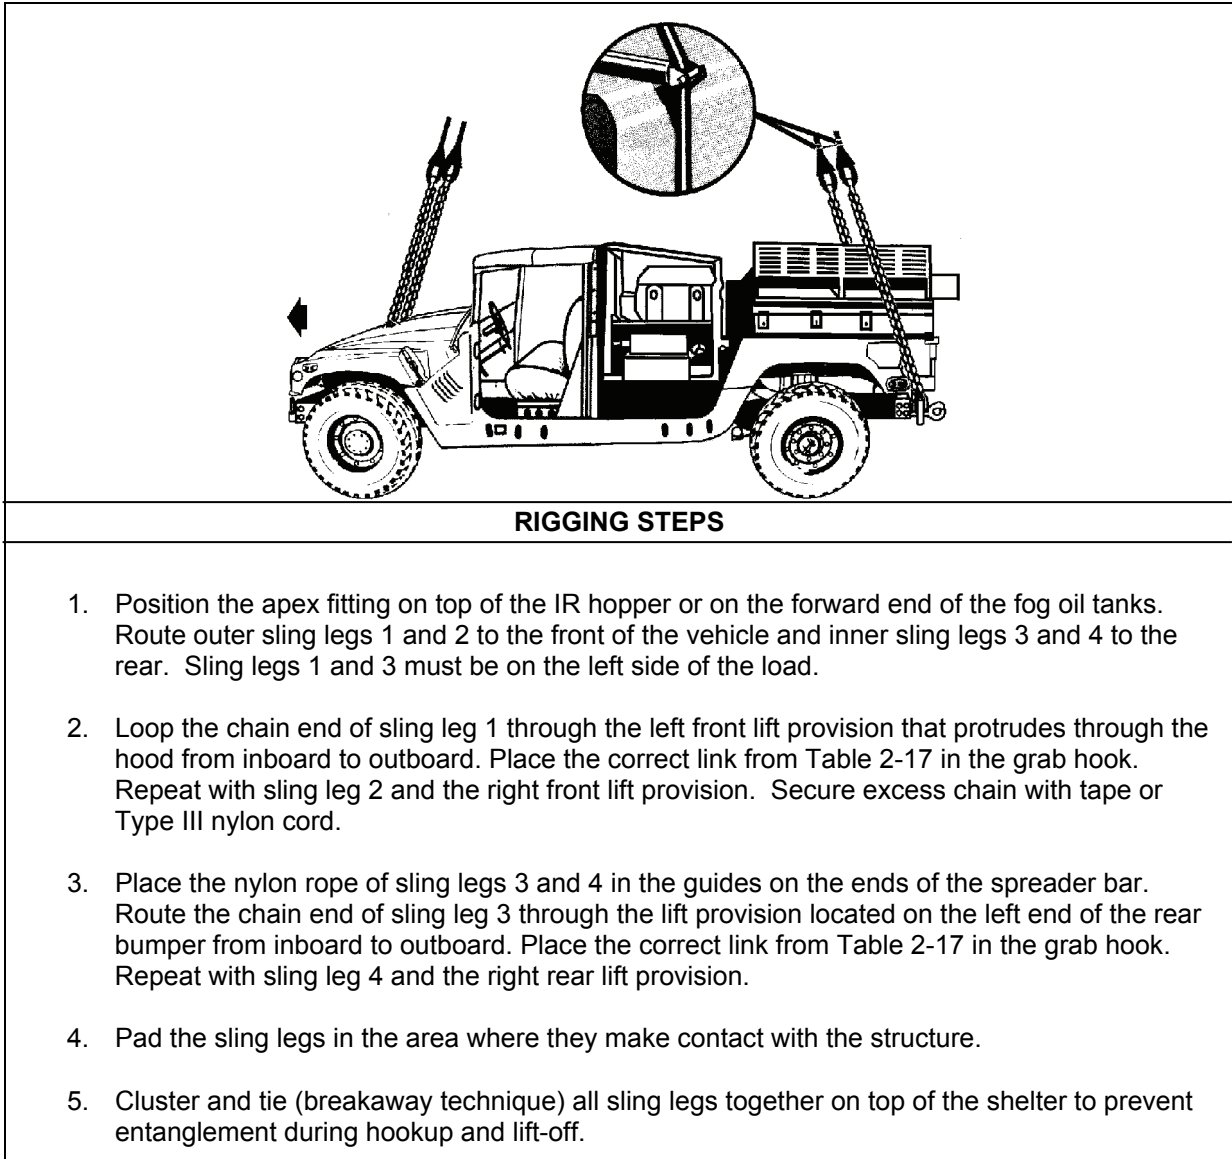

Figure 2-16. M1113 (HMMWV) With M56 Smoke Generating System
- **Rigging.** Rig the load according to the steps in Figure 2-16.